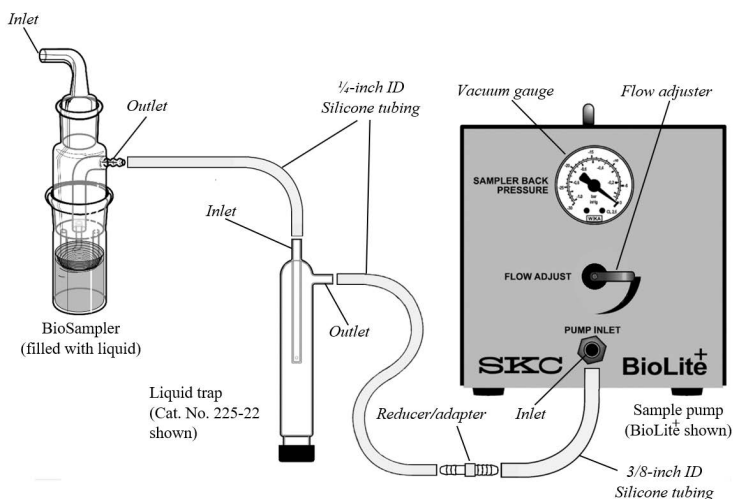

Figure 3. Sampling Train with Liquid Trap
- a. If using a collection liquid, it is important to use a liquid trap** (Figure 3) to protect the sample pump. Connect the BioSampler outlet (nozzle section) to the inlet of a liquid trap and connect the liquid trap outlet to the sample pump inlet as shown in Figure 3.